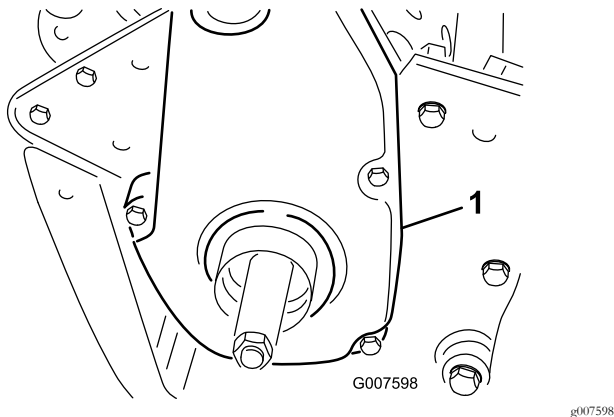

Figure 44
6. Remove the rear belt cover from the right side of the machine (Figure 44).